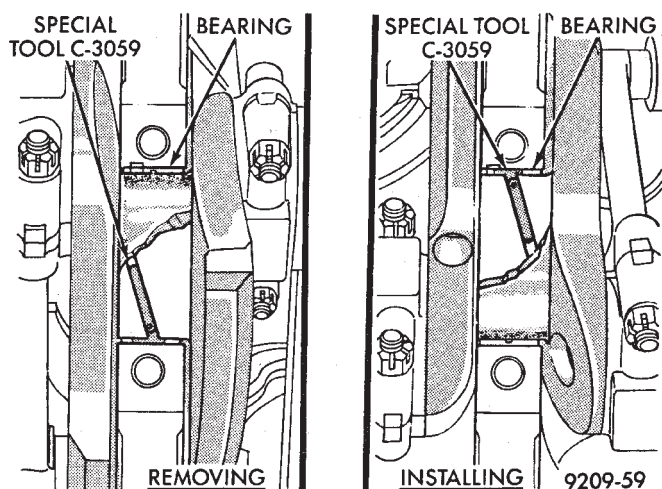

Fig. 32 Upper Main Bearing Removal and Installation with Tool C-3059
- (1) Remove the oil pan.
- (2) Remove the oil pump from the rear main bearing cap.
- (3) Identify bearing caps before removal. Remove bearing caps one at a time.
- (4) Remove upper half of bearing by inserting Crankshaft Main Bearing Remover/Installer Tool C-3059 into the oil hole of crankshaft (Fig. 32).
- (5) Slowly rotate crankshaft clockwise, forcing out upper half of bearing shell.
(1) Start bearing in place, and insert Crankshaft Main Bearing Remover/Installer Tool C-3059 into oil hole of crankshaft (Fig. 32).
(2) Slowly rotate crankshaft counterclockwise sliding the bearing into position. Remove Tool C-3059.
(3) Install the bearing caps. Clean and oil the bolts. Tighten the capbolts to 115 N·m (85 ft. lbs.) torque.
(4) Install the oil pump.
(5) Install the oil pan.